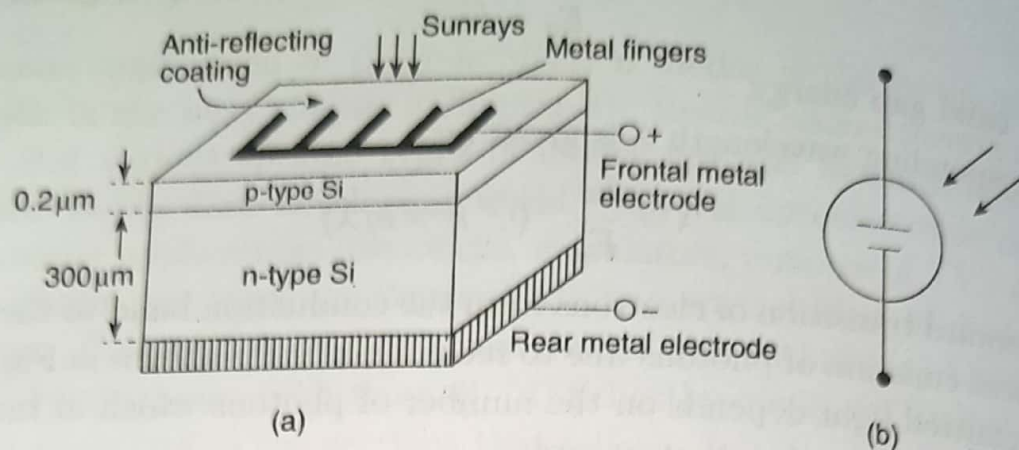

Fig. 3.14 (a) Construction of solar cell (b) Symbol of solar cell
**Construction**—A solar cell is basically an unbiased  $p$ - $n$  junction diode made of silicon. Fig. 3.14(a) shows schematically the constructional details of a typical solar cell
and Fig. 3.14(b) gives its symbolic representation. The upper electrode of the cell is in the form of a ring or a grid with fingers so that sunlight may easily pass through it. To prevent the loss of light by reflection, the upper surface is coated by an anti-reflecting layer. The  $p$ -layer of the junction diode is much thinner compared to the  $n$ -layer for an easy diffusion of majority carriers before recombination. The lower electrode (metal) completely covers the surface. Both the  $p$  and the  $n$ -regions are heavily doped to obtain a large amount of photovoltage.